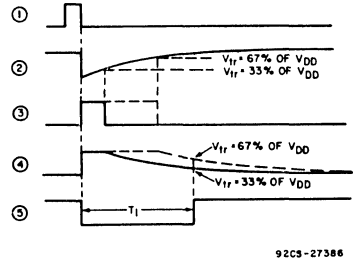

Fig. 14 - Waveforms showing the cancelling effects of transfer-voltage variations of the two COS/MOS inverters when two equal time constants are used.
The advantage of using two inverters fabricated on the same chip is that they have similar transfer voltages. When two equal RC time constants are used (R₁C₁ = R₂C₂), the effects of variations in transfer voltage from device to device are effectively cancelled out, as shown in Fig. 14. Eq. (1) can be used to show that the maximum variation in the time period T is less than 9 percent. The total time for one period,